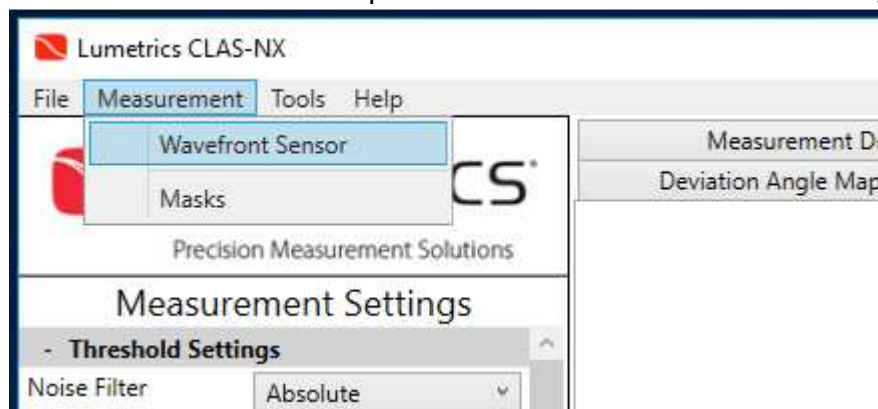

Figure 8: Selecting Wavefront Sensor
4. Go to the **Measurement** menu option and select **Wavefront Sensor**, Figure 8.